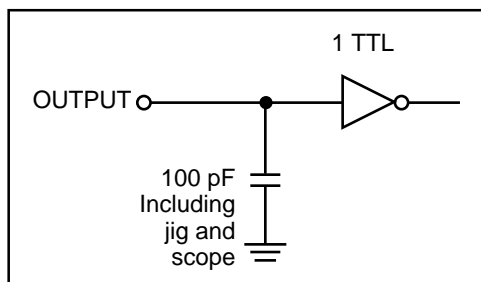

Figure 1
Output Load	See Figures 1 and 2
1. Test conditions assume signal transition times of 5 ns or less, timing reference levels of 1.3V, input pulse levels of 0.4V to 2.2V and output loading specified in Figure 1.
- Test conditions assume signal transition times of 3 ns or less, timing reference levels of 1.3V, input pulse levels of 0.4V to 2.2V and output loading specified in Figure 1.